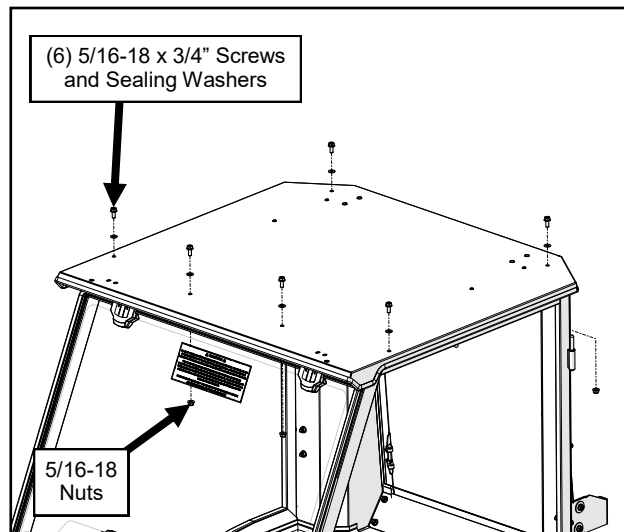

Fig. 10.1 (Install Roof)
- 10.1** With assistance, set the roof on top of the cab. Loosely secure with sealing washers on the (6) screws through the top of the roof. See Figure 10.1.